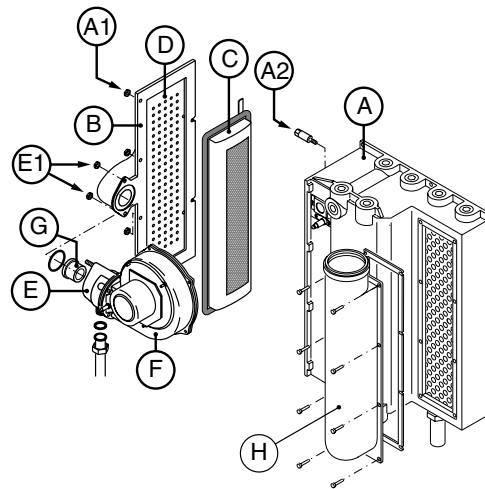

fig. 17-6
- Remove nuts E1, unthread MIXER (E) - FAN (F) unit (fig. 17-6).
- Extract internal choke G and inspect O-ring; with the aid of a brush or compressed air, clean the choke (fig. 17-6).
- Remove nuts A1, loosen nuts A2, remove conveyor B and extract burner C (fig. 17-6).
- Remove flue H from boiler shell (fig. 17-6) and with the aid of a brush and vacuum cleaner, clean between the exchange rungs (fig. 17-9)